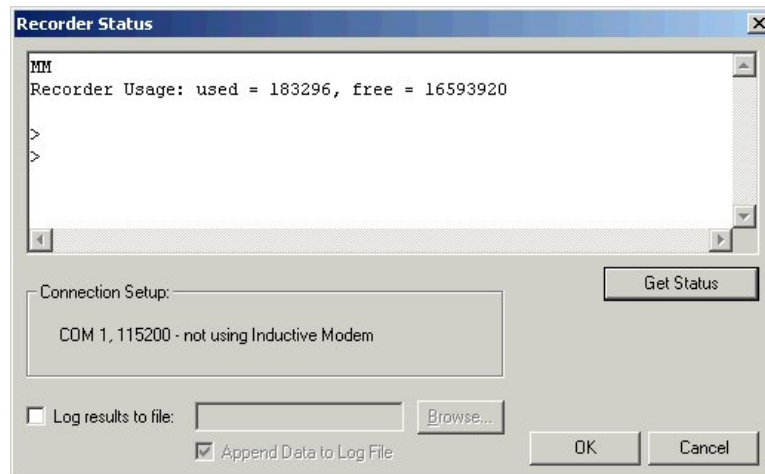

Figure 18. Recorder Status
- c. On the **Tools** menu, click **Recorder Status**. This will open **Recorder Status** screen (see Figure 18).